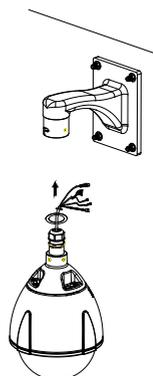

Figure 2
- (1) Remove the secure plate and drill 4 holes on the wall matching the mount holes on the plate. Diameter  $\phi 3/8"$  (9.5mm), depth  $1/1/2"$  (40mm).
- (2) Hammer 4 screw mounts into the holes and then secure the plate with a hex driver.
- (3) Fasten the connector ring to the wall hang support in the clockwise direction (Figure 2).
- (4) Thread the cabling of the main unit through the short aluminum tube and push the cables out from the bottom.